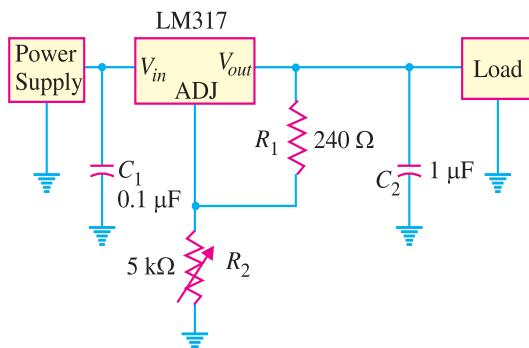

Fig. 17.35
5. If  $R_2$  in Fig. 17.35 is adjusted to  $1.68\text{ k}\Omega$ , determine the regulated d.c.output voltage for the LM 317. [10 V]